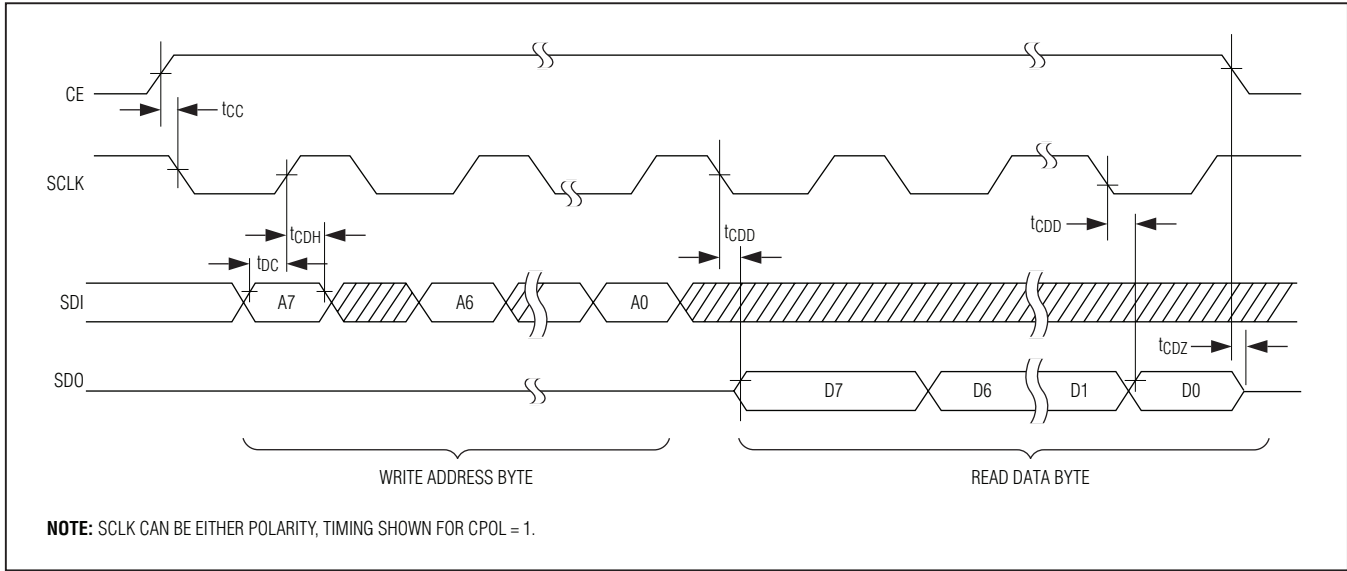

Figure 3. Timing Diagram: SPI Read Data Transfer
**AC Electrical Characteristics: SPI Interface**(VDD = 1.7V to 3.7V, TJ = -55°C to +125°C, unless otherwise noted.) (Figures 3, 4)